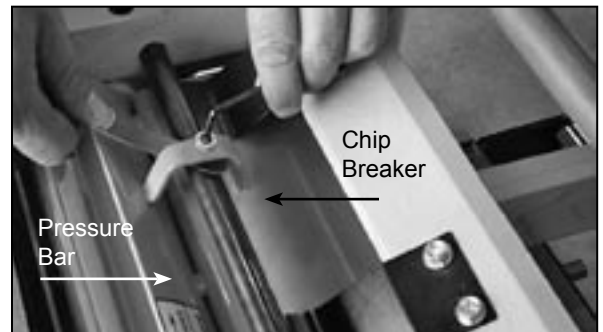

Figure 29
- 4 To adjust; loosen the jamb nut and using a 3mm Allen wrench and a feeler gauge tighten or loosen until there is .030" space between the Allen screw and infeed block. Lock the setting by tightening the jam nut. Set both left and right hand sides. See figure 29.